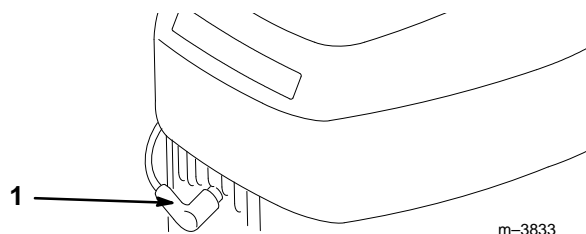

Figure 12
2. Connect spark plug wire (if disconnected) (Fig. 12).